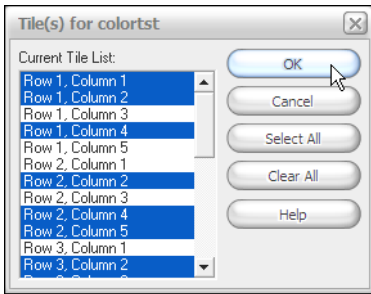

Figure 5—Tile Dialog
2. Select the tiles you want to print, and click **OK** (see Figure 5). By default, all the tiles are selected for printing.